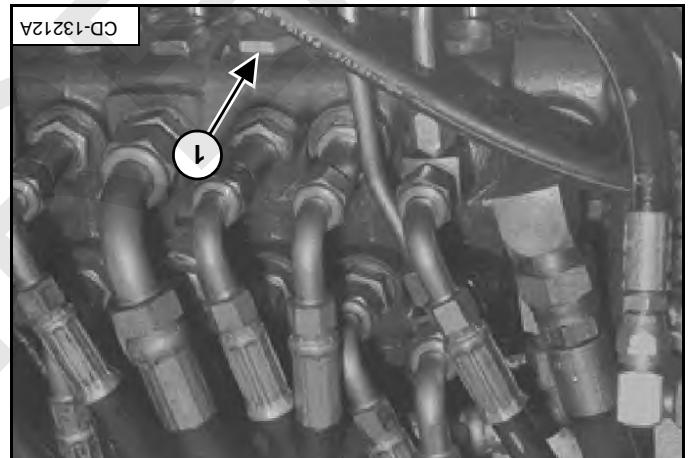
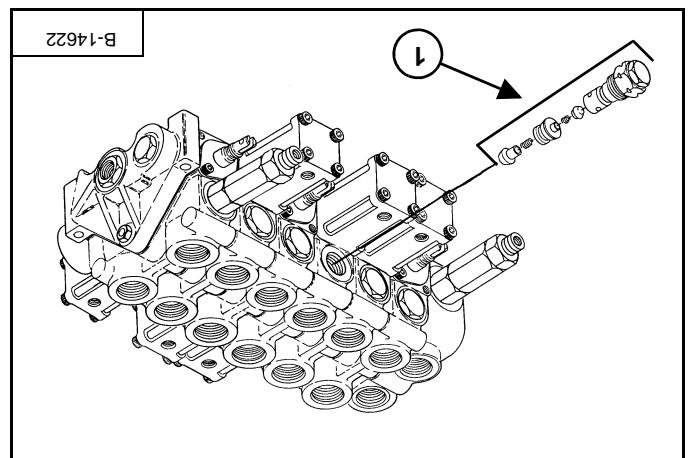

Figure 65
Figure 64
NOTE: It is recommended that the Port Relief Kit (item 1) [Figure 64] and [Figure 65] is ordered and installed in the base end (item 1) [Figure 65] of the Bucket section in the hydraulic system before control valve in models listed below, before using the direct drive auger.